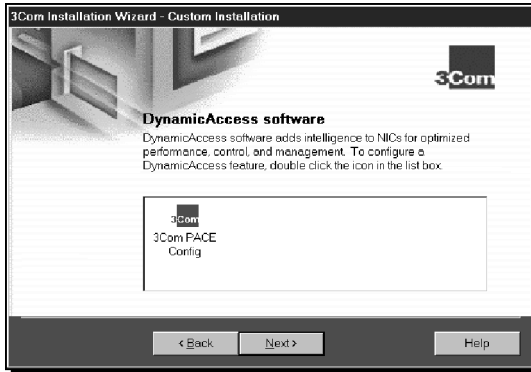

Figure 3-11 DynamicAccess Software Inquiry Screen
When you click *Next* in the previous section, the DynamicAccess Software Inquiry screen appears, as shown in Figure 3-11.
- 1 **Double-click the 3Com PACE Config icon shown in Figure 3-11.**